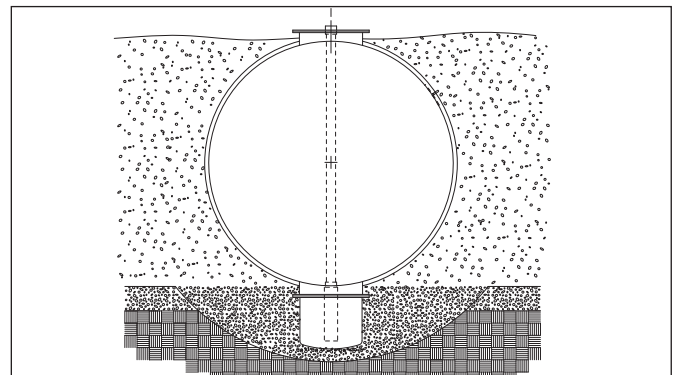

FIGURE 6-1
6.3. Finish backfilling to the top of the tank as specified in the Installation Manual. (See FIGURE 6-1.)